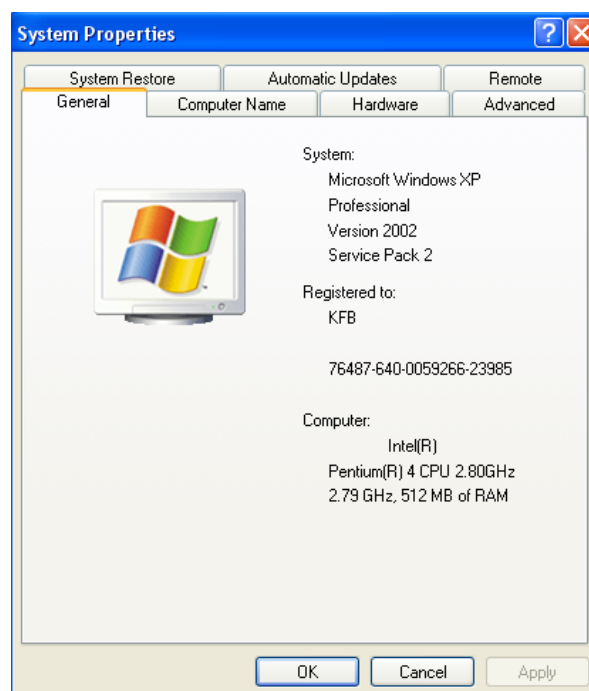
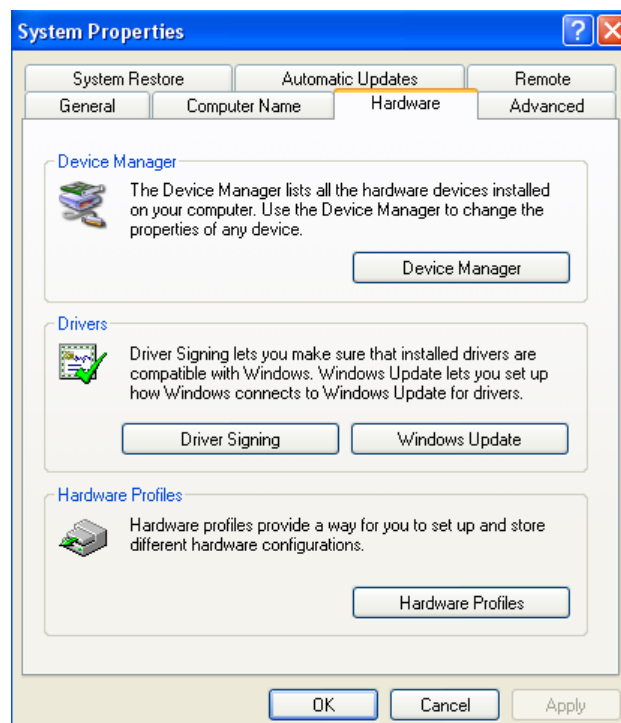
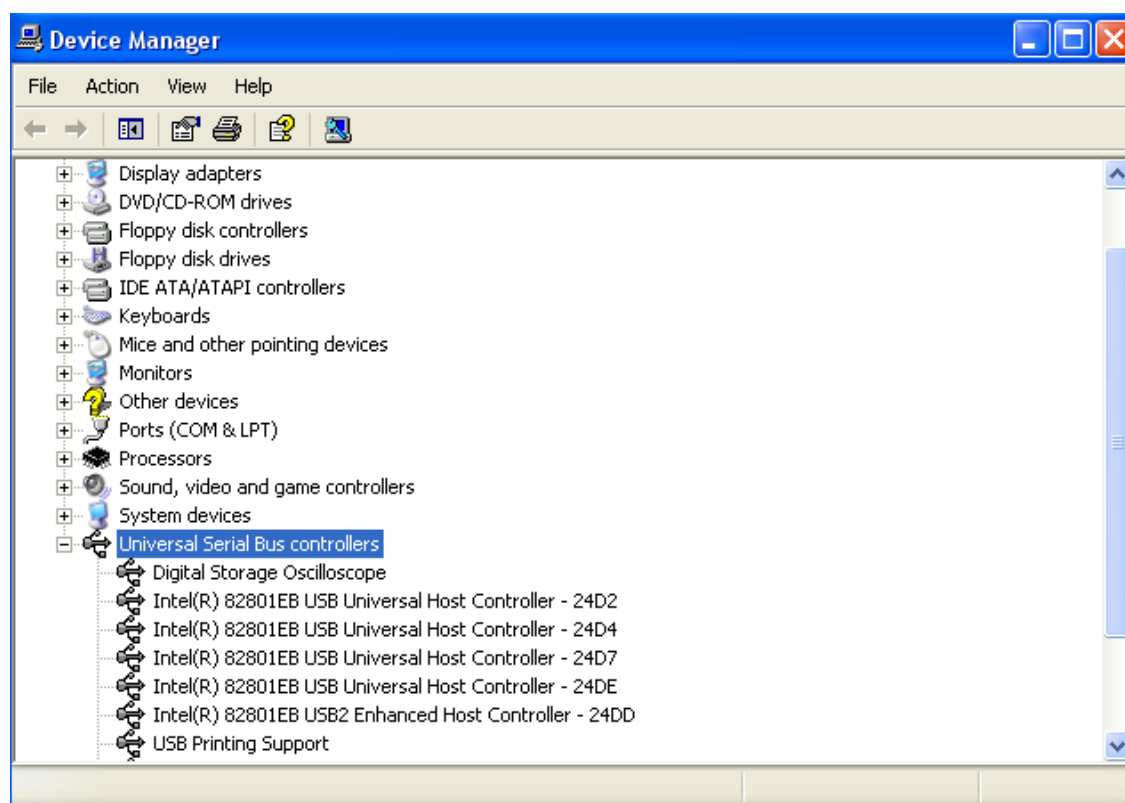

Fig 4-3
Fig 4-4
Fig 4-5
- ② In Fig 4-2, select “attribute” and right click to pop up Fig 4-3.
- ③ Select “hardware” in Fig 4-3. Fig 4-4 is displayed.
- ④ Select “equipment manager D” in Fig 4-4. Fig 4-5 pops up.
- ⑤ In Fig 4-5, delete “digital storage oscilloscope” in “Universal serial main line controller” to restart the oscilloscope. Select automatic driver update to complete the update process.